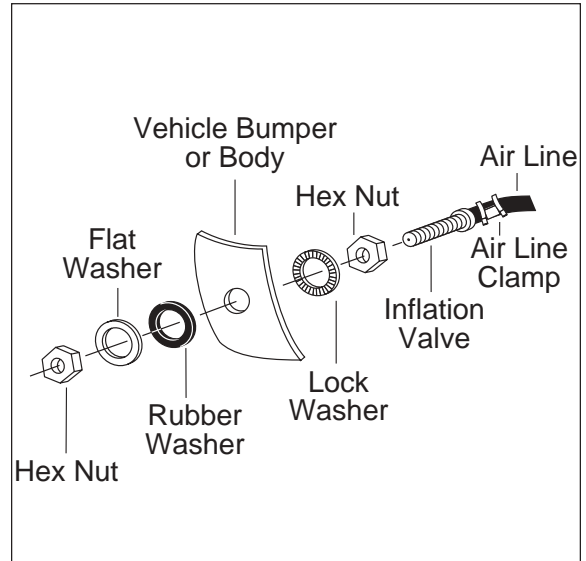

Figure 7
- Drill a $\frac{5}{16}$ " hole for inflation valve and mount as in illustration (Figure 7). Rubber washer is for outside weather seal.
- f. Drill $\frac{5}{16}$ " hole for inflating valves and mount as illustrated. Rubber washer is for outside weather seal (Figure 7).